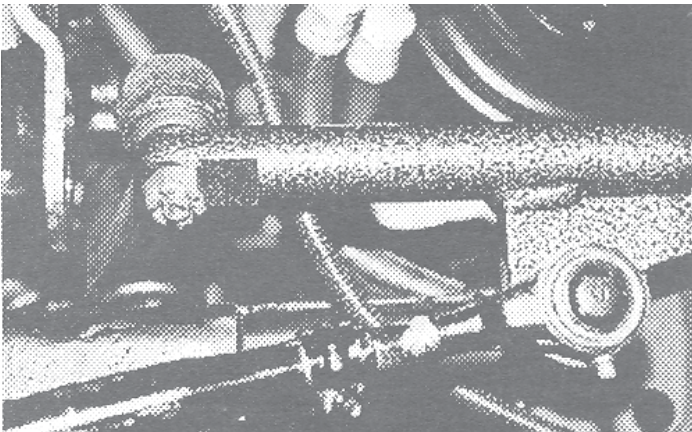

Fig. 22
21. Install inner tie rod ends into replacement relay rod "S". Torque to OE specification. Install relay rod assembly. Torque idler and pitman arm nuts to OE specifications. Install cotter pins provided. **Fig. 22.**